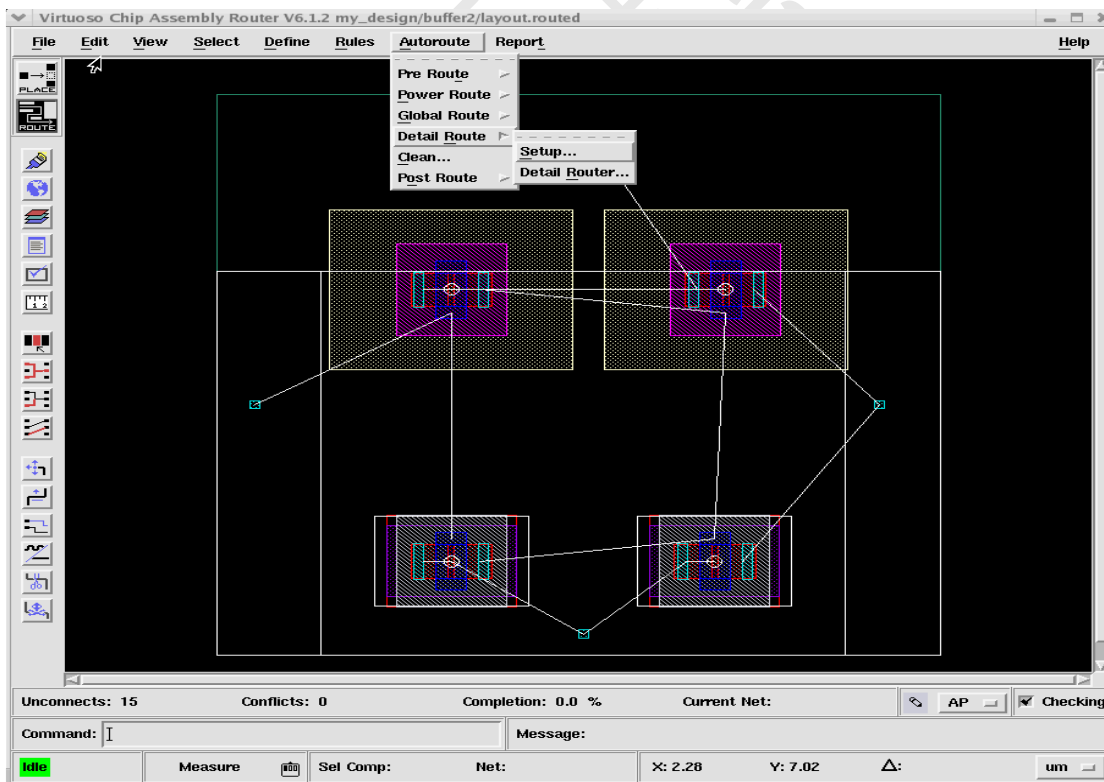

FIG. 21 Perform automatic routing
3. Click “Autoroute->Detail route->Detail router” to complete the auto routing (Fig 21).